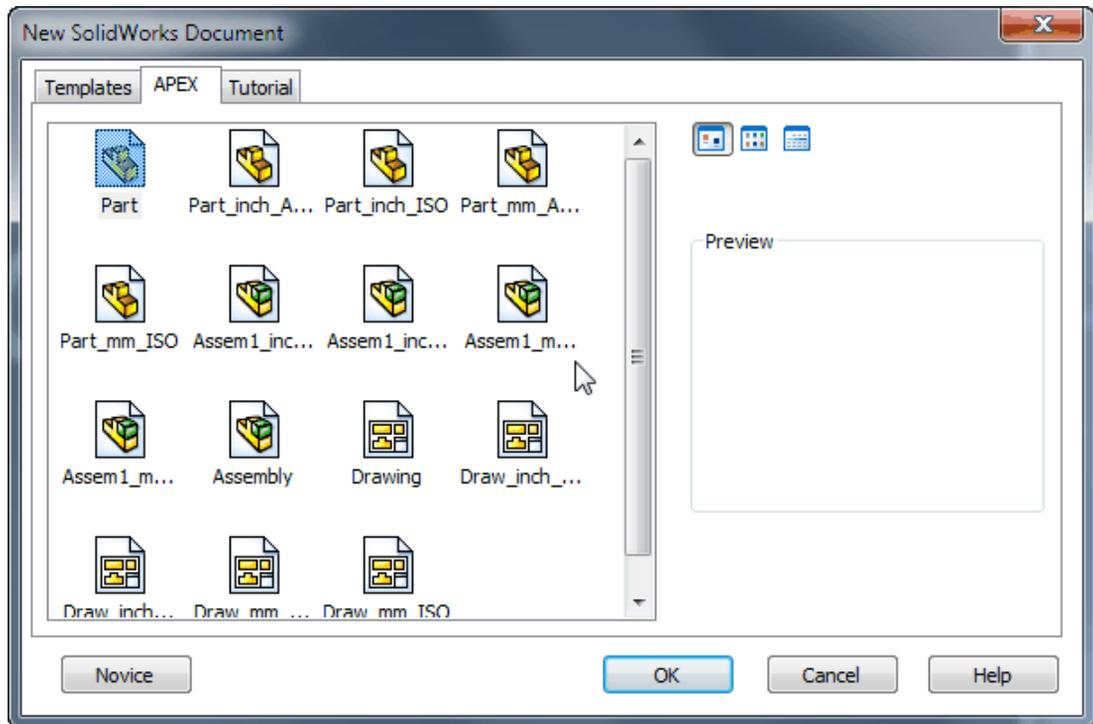

Figure 51 Clicking an Assembly millimeter template for the new document type
- 1 Click the down arrow next to **New** on the APEX toolbar. This time, click an assembly template in millimeter format on the New Document dialog box, and click **OK**. See Figure 51.